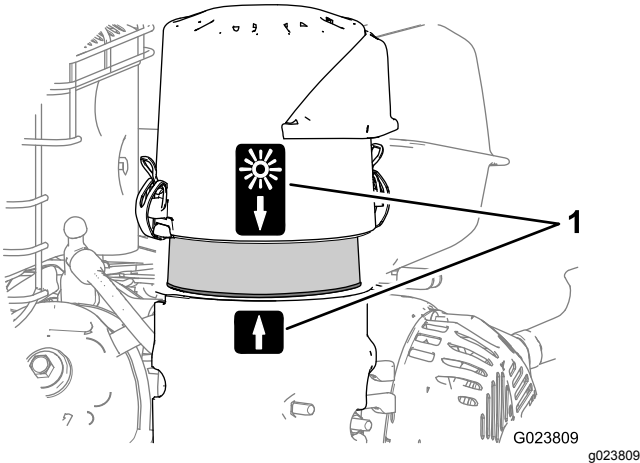

Figure 33
- Align the arrow decal on the air-cleaner cover and the arrow decal on the base (Figure 33).